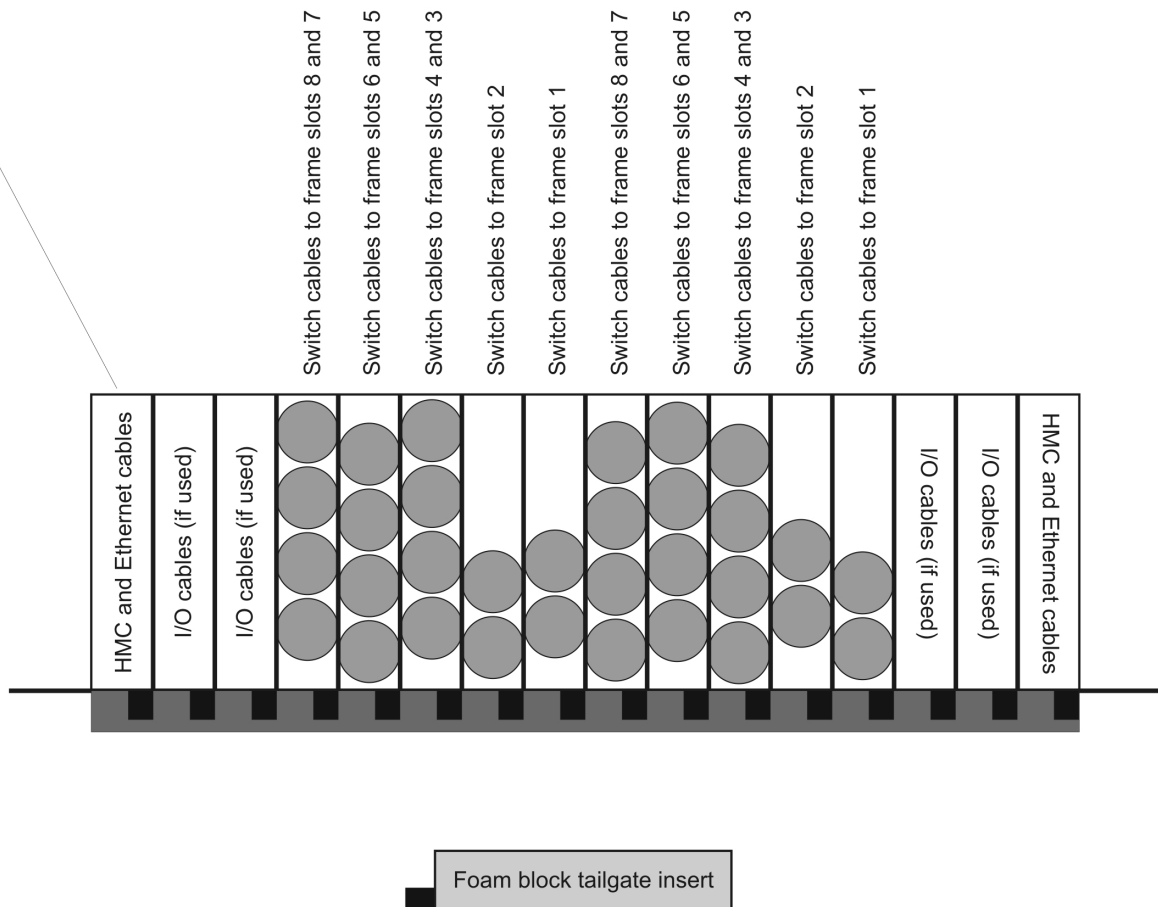

Figure 38. Proper cable layout inside the cable management bracket
20. Clamp the switch cable pair for the node in frame slot 2 into the tailgate using a rubber-faced, tailgate insert with the appropriate thickness of rubber (refer to Figure 38 on page 103)
23. Clamp the switch cable pair for the node in frame slot 1 into the tailgate using a rubber-faced, tailgate insert with the appropriate thickness of rubber (refer to Figure 38 on page 103)
- After the last tailgate insert (the one clamping the cables for the left side of the frame), install one or more foam block tailgate inserts into the open slots (refer to Figure 38 on page 103)
If you have properly cabled the frame, the cable layout should look like Figure 38.